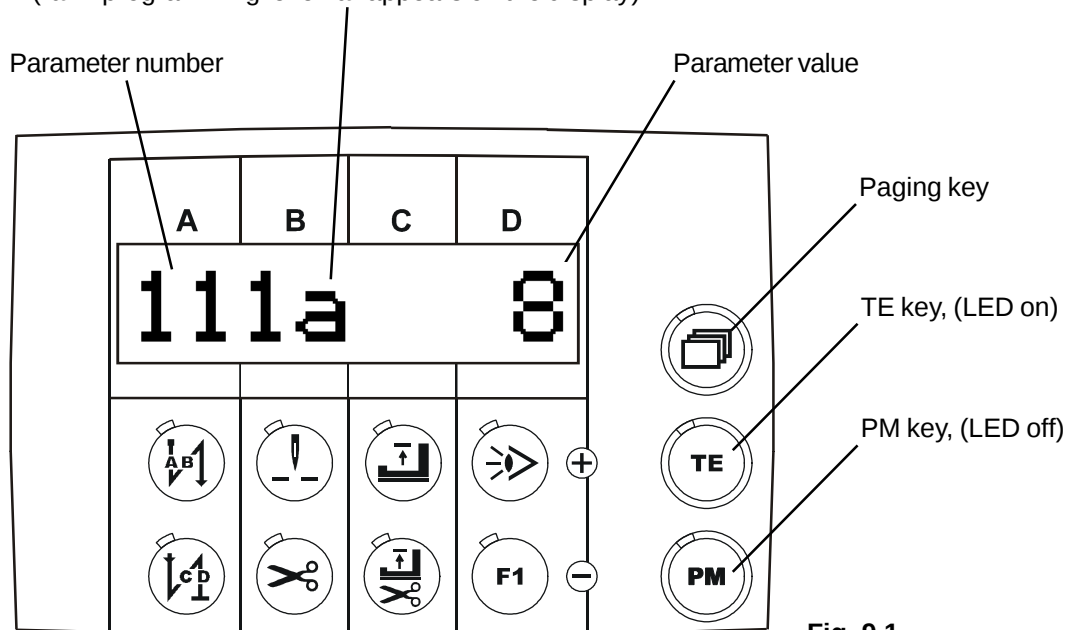

Fig. 9.1
- Press paging key until the display (**Fig. 9.1**) appears
- Press the **paging key** until display **Fig. 9.1** is displayed; **sewing is not possible**